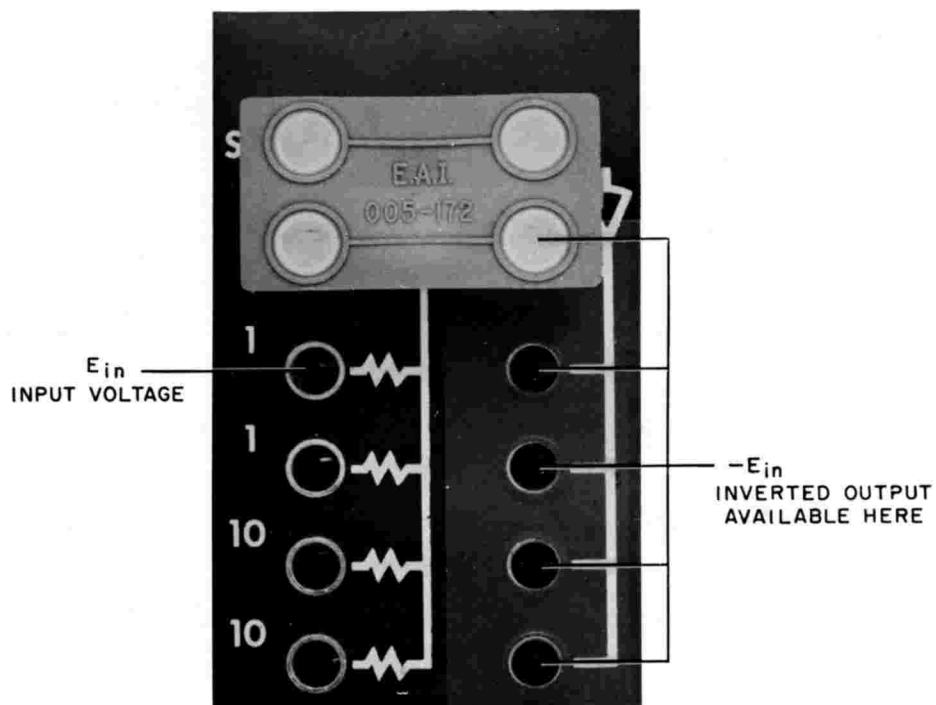

Figure 7. Model 6.712, Patched as an Inverter
The input (B) and output (O) of each amplifier are terminated on the patching block, together with one end of each of the five input/feedback resistors. The other end of each resistor is connected to a common bus terminated at the summing junction (SJ) terminal. To patch an amplifier as a standard inverter or summer, connect a four-prong bottle plug as shown in Figure 7. A single input applied to a 1 terminal (for example, +X) is inverted and appears as -X at any of the 0 terminals. If two inputs (for example +Y and +Z) are applied to 1 terminals, their sum appears inverted as -(Y + Z) at any of the 0 terminals.
The operational amplifiers are rated for a maximum output of ± 10 volts. The amplifier patching arrangement should be such that the output voltage does not exceed this limit. (The amplifiers are capable of producing outputs up to ± 13 volts, depending on load, in order to allow for minor scaling discrepancies.) It is important to note that all amplifiers must be provided with feedback even if they are not being used in a problem. This is most easily accomplished by inserting a four-prong bottle plug as shown in Figure 7. When the amplifier is used in conjunction with an integrator network or one of the non-linear components, its patching requirements are discussed in the chapter pertaining to these units.